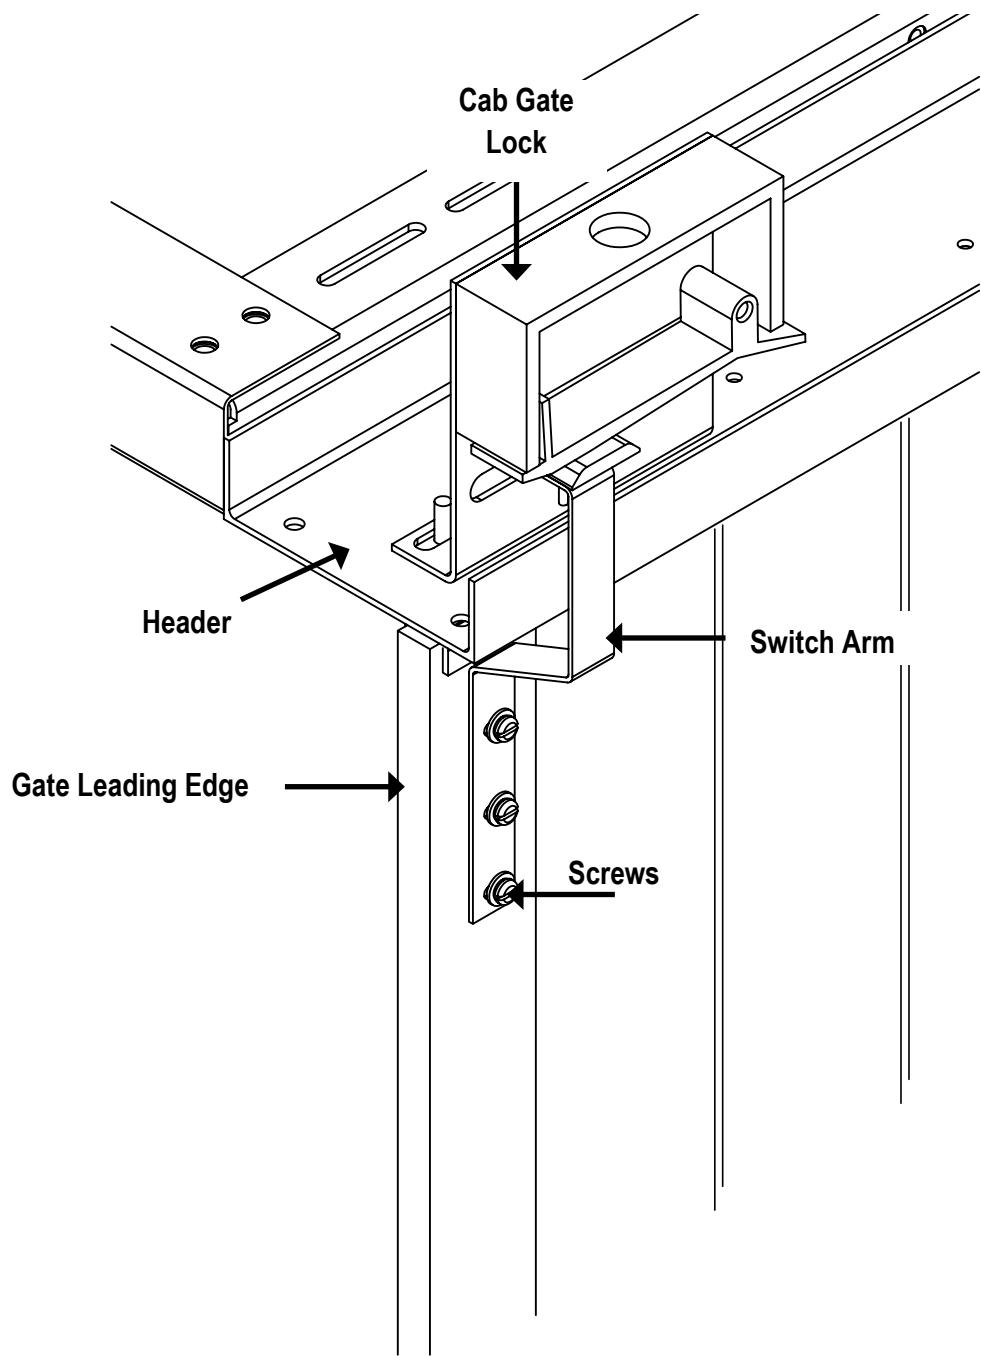

Figure 83 GAL Gate Switch
- 5) Install the GAL gate switch on top of the door header (Figure 83).